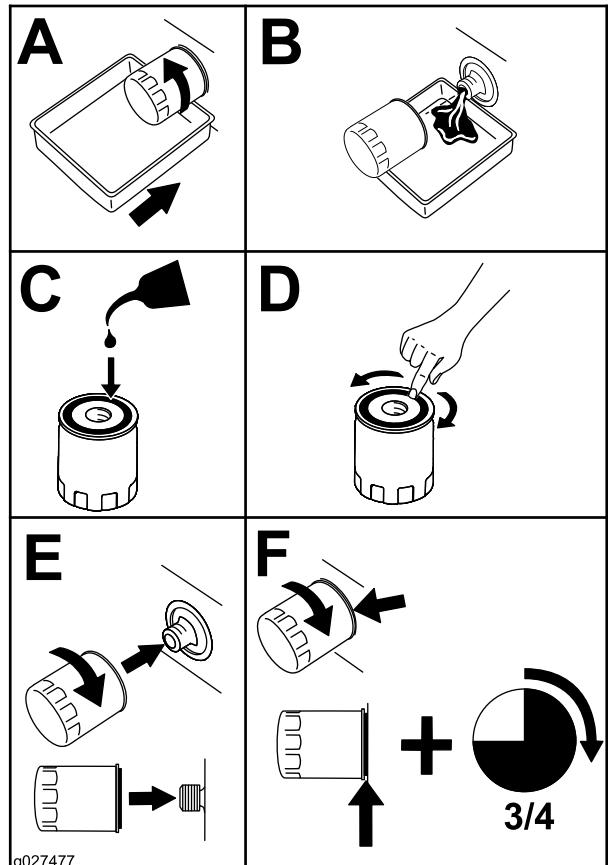

Figure 50
- Change the engine-oil filter (Figure 50).